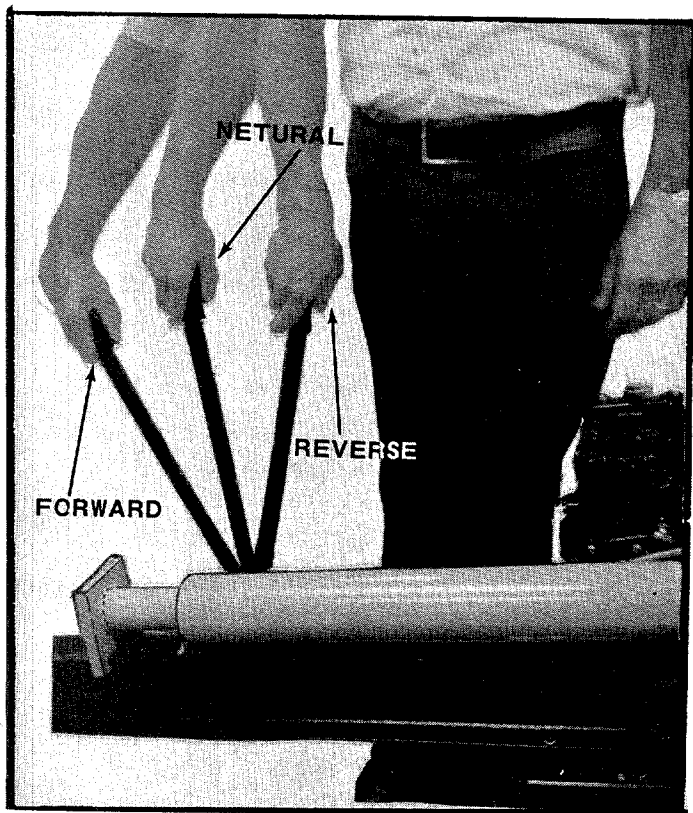

FIGURE 10
- B. Engagement handle has three positions: Forward—moves ram toward wedge. Neutral—ram stops in place. Reverse—ram returns. See figure 10.